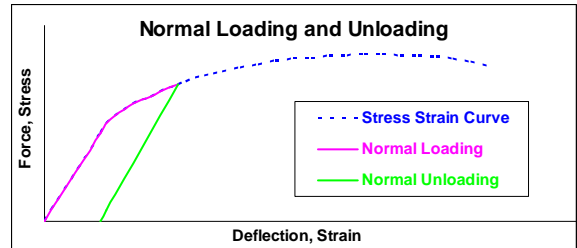

Figure 1. Typical Stress-Strain Curve
The key to good contact force is to achieve as high a stress as possible while ensuring that the strain remains elastic. This requires a material with an optimal combination of elastic modulus and yield strength. The relationship between strain and stress is described by the material's stress-strain curve. Figure 1 shows a loading and unloading cycle on a typical stress-strain curve. The permanent set, or plastic strain, is the area (A) on the horizontal axis between the loading and unloading line. However, if a contact is stressed to a certain point on the curve and held there for a long period of time at an elevated temperature, some of the **elastic strain** will convert to **plastic strain**. For example, a computer contact located next to the microprocessor may start to lose force over time. Therefore, even if the stress is well below the elastic limit on the stress-strain curve, some plastic deformation may occur.